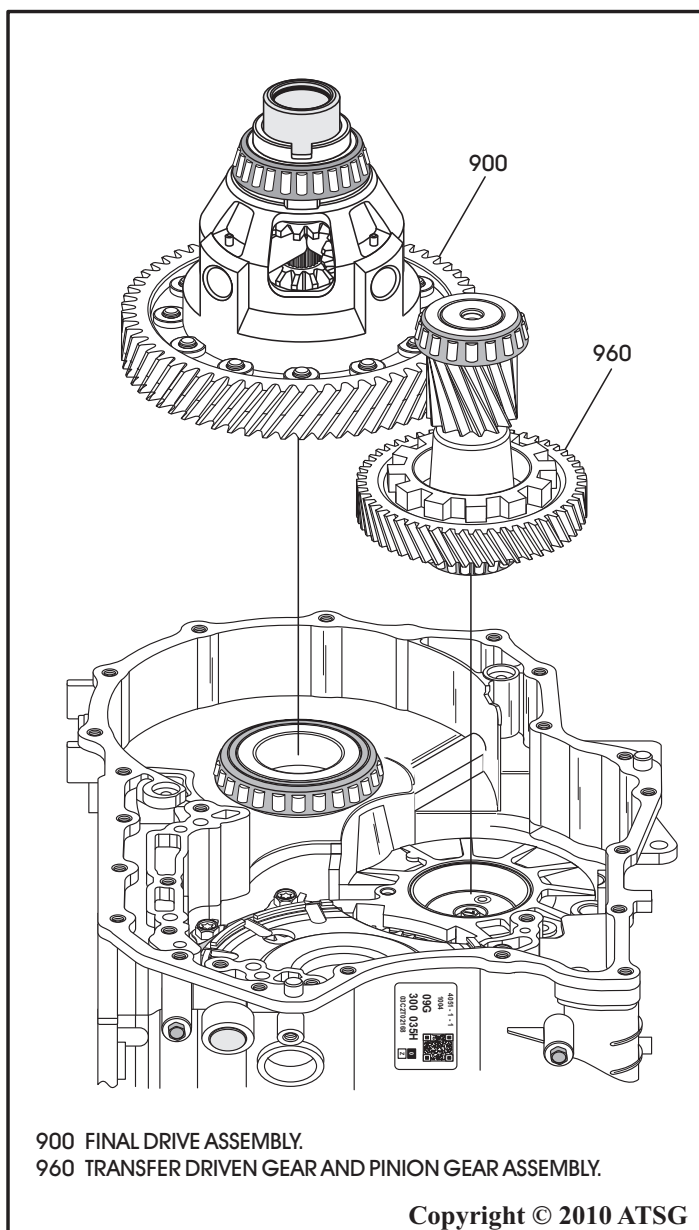

Figure 80
9. With the parking pawl removed, you can now remove the transfer driven gear and pinion gear assembly and the final drive assembly, as shown in Figure 80, and set aside for the component rebuild section.